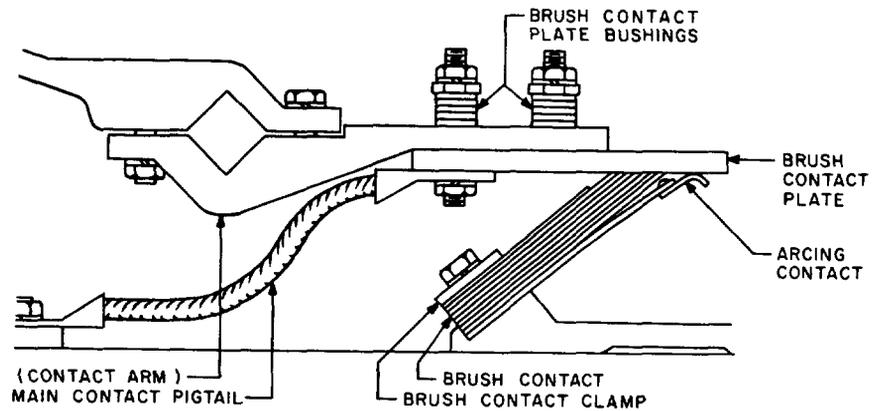

Fig. 8—Main Contact Structure of 150-Ampere Contactors
3.08 Brush Contacts—Fig. 8, 9, and 10
3.09 Brush Contact Plate—Fig. 8